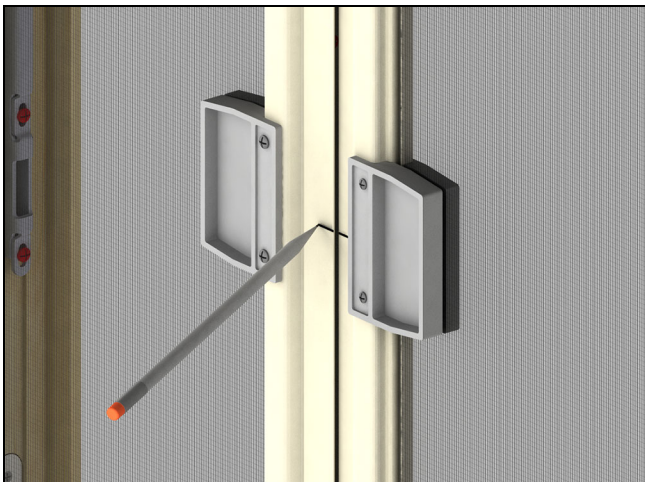
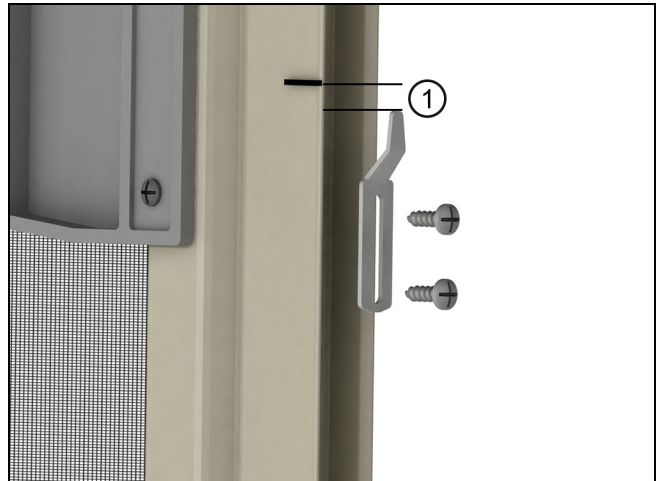

Figure 11
Figure 12
2. Close the screen against the astragal. Transfer latch location from the screen frame to the astragal. See Figure 11.
3. Open and slide the screen to the open position. Position strike on the astragal 1/8" (3) below the latch reference mark. Center the strike on the astragal between the interior and exterior of the screen. See figure 11. Mark the center of each screw slot on astragal. Drill pilot holes with a 3/32" (3) drill bit. Position strike on astragal and fasten with the two provided #6 x 1/2" pan head screws. Set strike screws at the center of the adjustment slots. Raise or lower strike as needed. See Figure 12.